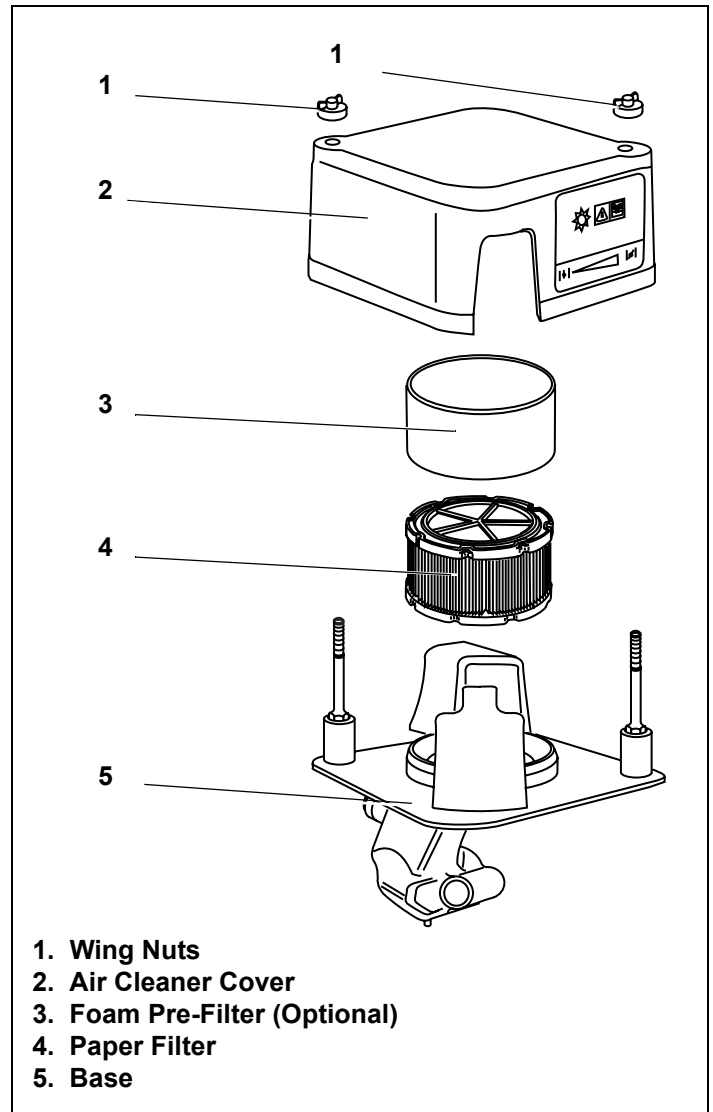

Figure 46. Type “E” Climate Guard Air Cleaner Assembly
1. Remove wing nuts from air cleaner cover. See Figure 46.